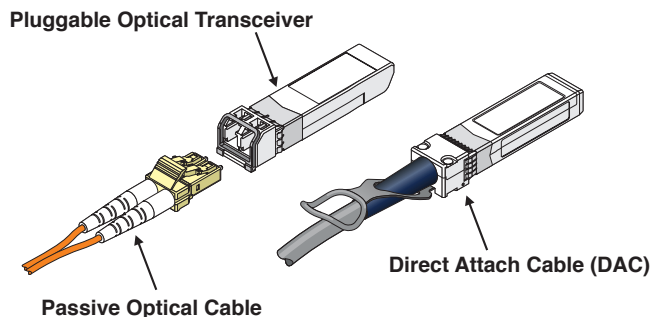

Figure 2: DAC and Optical Modules
End users needed a less costly solution for shorter links so Direct Attach Copper Cables (DAC) were developed to meet that need. The DAC's are copper assemblies made of high performance Twin Axial copper cable which is directly soldered to the PCB plug interface thereby eliminating the Electrical to Optical (E2O) conversion from each end of the cable assembly. As a result, users now have a cost effective solution for all links and lengths from 1 meter passive copper cables to 10K Single Mode (SM) optical links. The two DAC and optical module options are shown in Figure 2.